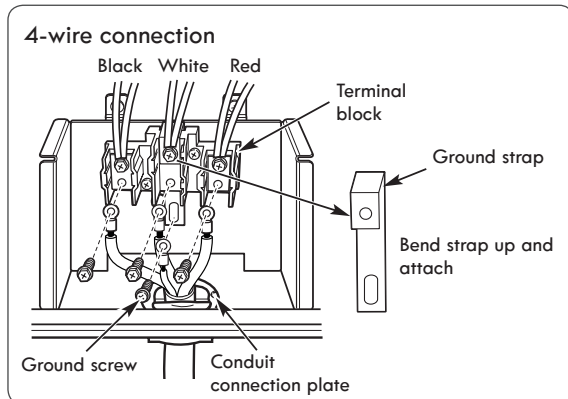

FIGURE 9
- Remove the lower 3 screws from the terminal block and retain them. (Refer to Figure 9.)